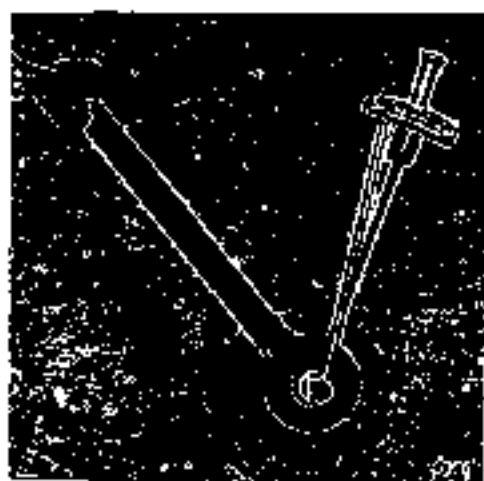

Fig. 16
- (5) The formal adjustment of the drive pinion, bearing and preload. After the fixing position of drive pinion is decided as mentioned in the previous paragraph, take off the pinion nut & companion flange to mount again the drive pinion bearing spacer (distance piece) and nut. Tighten up the nut as Fig. 16 by using the torque wrench at the regular torque of 100-120 ft/per lbs. The preload supported by the bearing in this case is different according to the condition of the bearing adjusting shim inserted.